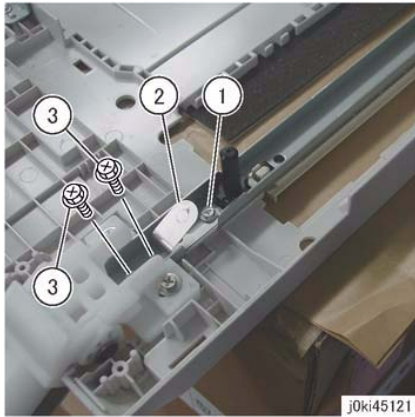

Figure 1 Tie Plate Screws
7. Remove the screws that secure the Tie Plate. (Figure 1)